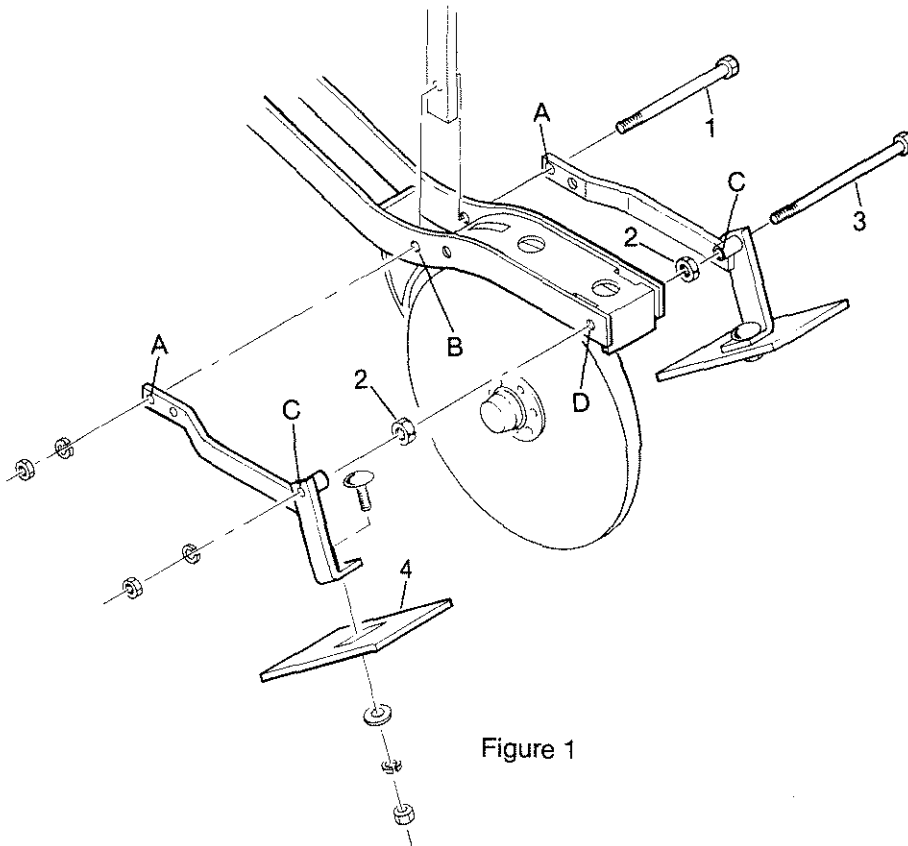

Figure 1
1. Line up front hole (A) of left and right Scraper Arms to front Spring Rod bolt hole (B) and attach to Opener Arm with $\frac{3}{8}$ " x $4\frac{1}{2}$ " long bolt (1). IT IS IMPORTANT TO REATTACH THE SPRING ROD IN ITS PREVIOUS POSITION.
2. Using two $\frac{1}{2}$ " hex nuts (2) as spacers between Scraper Arm and Opener Arm, line up rear hole (C) of Scraper Arm with rear hole (D) on Opener Arm. Attach with $\frac{3}{8}$ " x $6\frac{1}{2}$ " long bolt (3).
3. Attach outside Scraper (4) to Scraper Arm as indicated in figure 1. Align and secure.
1. Remove existing Spring Rod bolt (1) from hole (B) of Disk Opener Arm Assembly.
2. Line up front hole (A) of left and right Scraper Arms to hole (B) and attach with new size $\frac{3}{8}$ " x $4\frac{1}{2}$ " long bolt. IT IS IMPORTANT TO REATTACH THE SPRING ROD IN ITS PREVIOUS POSITION.
3. Using two $\frac{1}{2}$ " hex nuts (2) as spacers between the Scraper Arm and the Opener Arm, line up rear hole (C) of Scraper Arm with rear hole (D) on Opener Arm. Attach with $\frac{3}{8}$ " x $6\frac{1}{2}$ " long bolt (3).
4. Attach Outside Scraper (4) to Scraper Arm as indicated in figure 1. Align and secure.